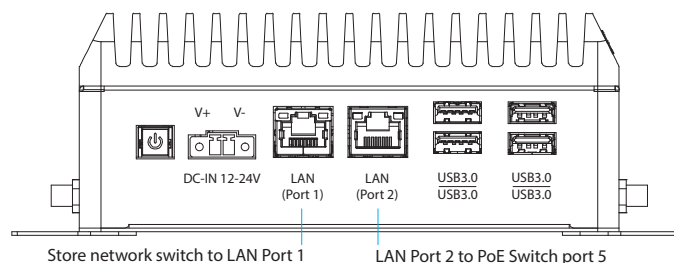

Fig. 14
- PoE switch port 5 is connected to port 2 of the VPU (right LAN port next to USB ports, Fig. 14).